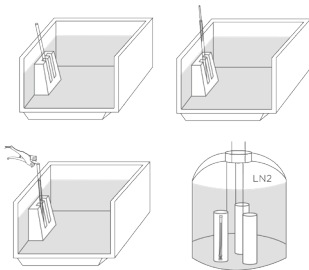

Figure 2. Cooling and sealing
- 7) Transfer the sealed straw to the Dewar filled with LN2. (See Figure 2).